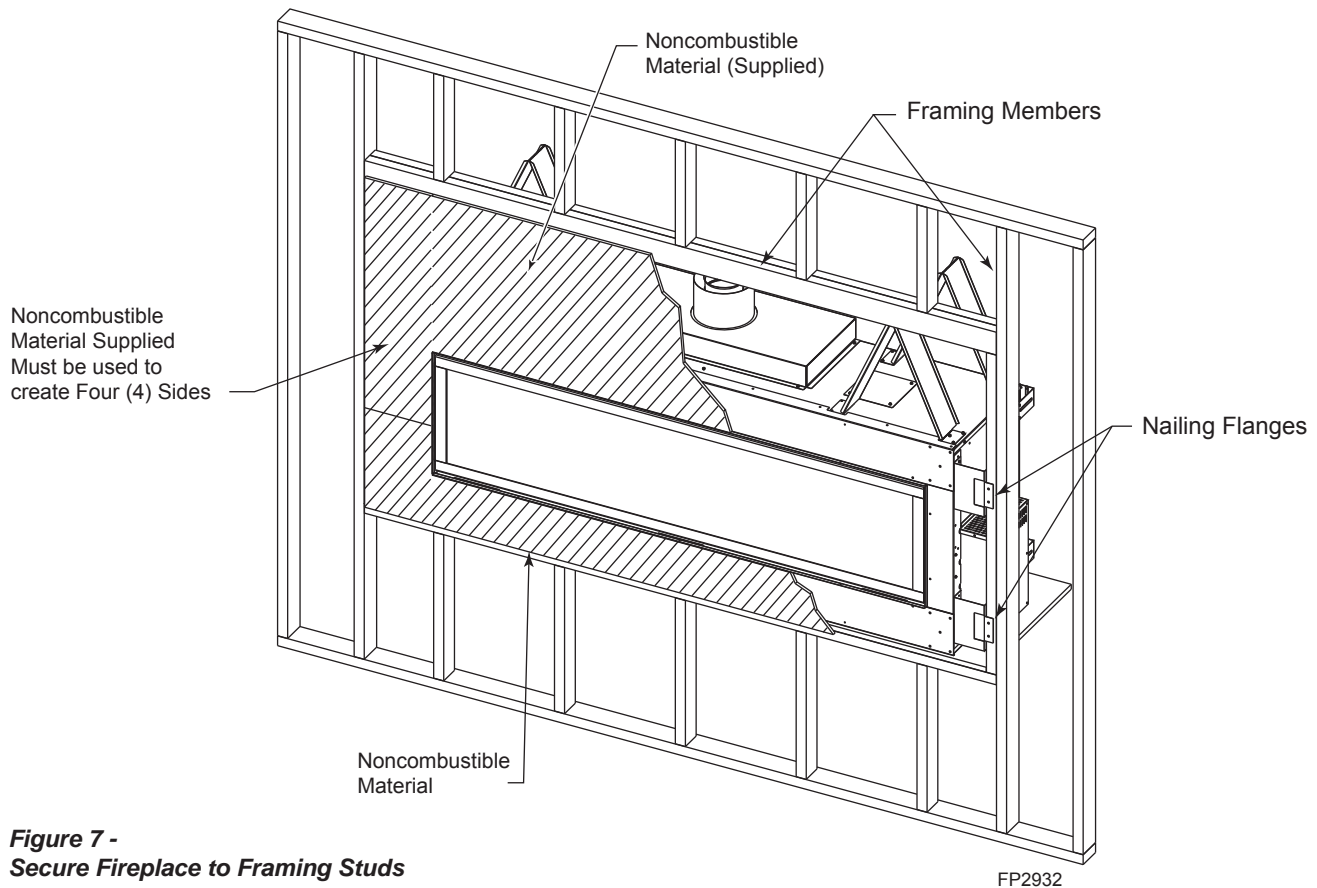

Figure 7 - Secure Fireplace to Framing Studs
The fireplace must be secured to the floor and/or to framing studs as shown in *Figure 7*. Use two (2) wood screws or masonry/ concrete screws to secure fireplace to the floor. Use four (4) screws to attach fireplace to framing. The side nailing flanges are 1/2" or 5/8" to accommodate different wall thickness.